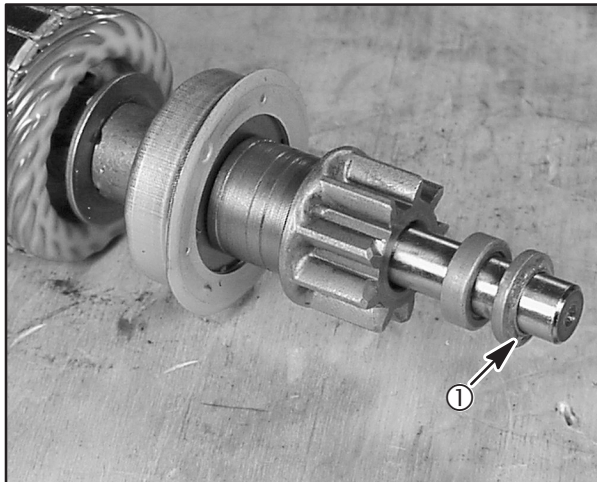

Fig. 41
5. Assemble spacer to armature shaft, Fig. 41.